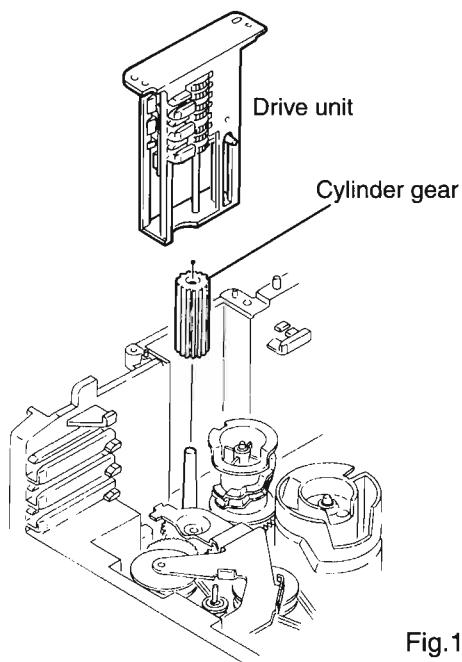

Fig.17
- Pull out the drive unit and cylinder gear(See Fig.17).